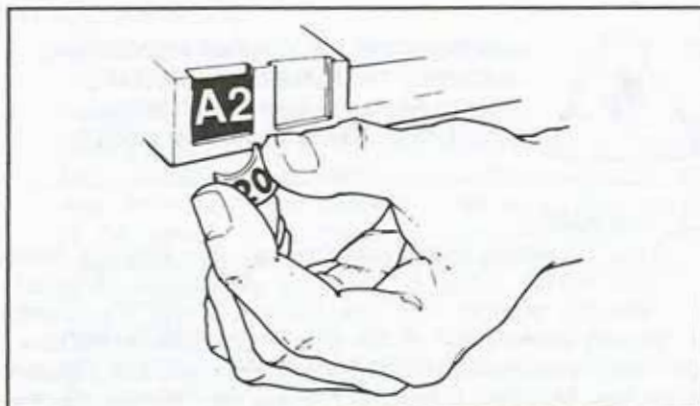

Figure 7. Installing price tabs.
11. **Install Proper Price Tabs** into price tab holder for each selection in the main product area. (see Figure 7).